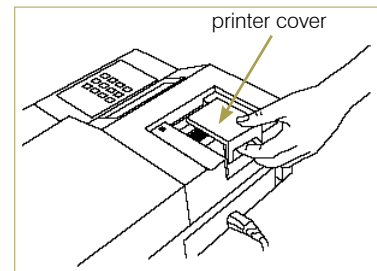

Figure B-8: Remove printer cover
2. Remove the printer cover (Figure B-8). If necessary, remove the old paper roll and its holder.